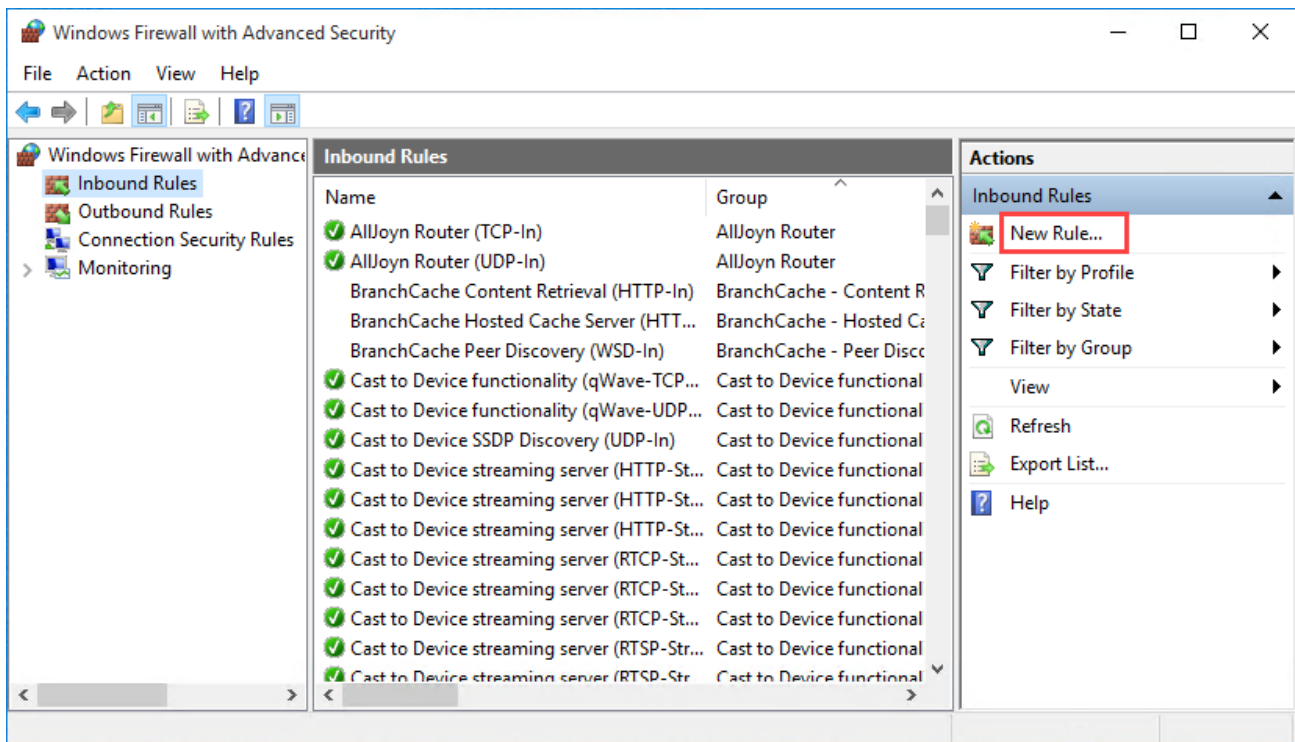

Figure 128: Creating a New Inbound Rule
1. Open the **Windows Firewall with Advanced Security** window (Figure 128). For quick access: